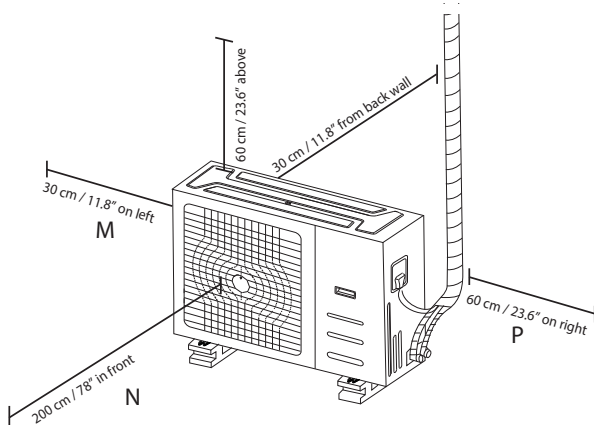

Fig. 5.6
**NOTE:** The minimum distance between the outdoor unit and walls described in the installation guide does not apply to airtight rooms. Be sure to keep the unit unobstructed in at least two of the three directions (M, N, P) (See Fig. 5.6)